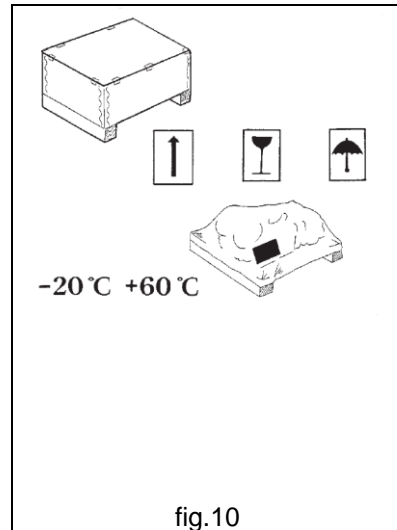

fig.10
- The packing, when necessary, can show signs and pictograms which give important information regarding the handling and transport (mass, handling points, storage information, etc.) – (fig.10).